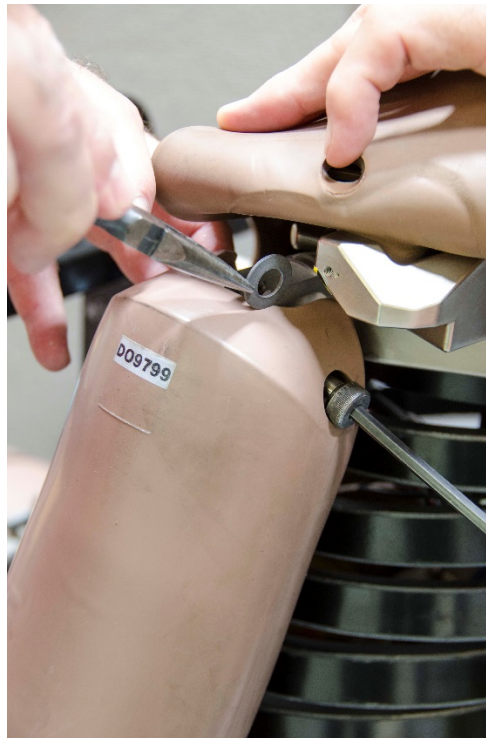
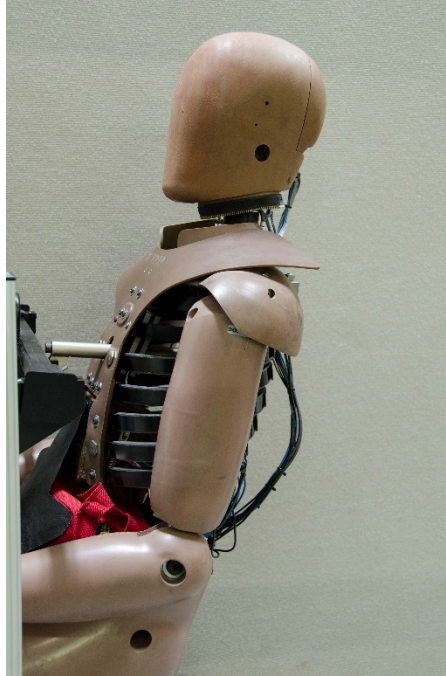

Figure 13-20. Install spring washer and shoulder bolt
Figure 13-21. Arm installed on THOR-50M
13.2.3.5 Use pliers to insert the disc spring washer into the recess and against the posterior clevis (Figure 13-20). Align the washer hole with the hole and install the M10 x 20 SHSS. The installed arm is illustrated in Figure 13-21.